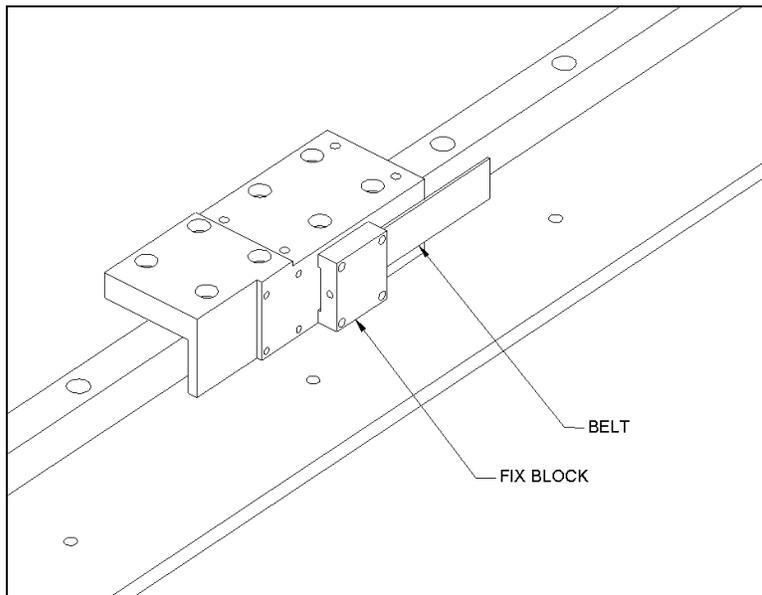

Figure 7-63 Mounting the Fixed Block
- 1 Fit the Fixed X Belt Block (Part No. 204002600), with the belt (Part No. 40000160) to the end of the datum face (Figure 7-63). Ensure that the belt is properly located and flush with the end of the block. Use 4 M3 x 12 skt cap screws; apply Loctite 222 and secure the screws.